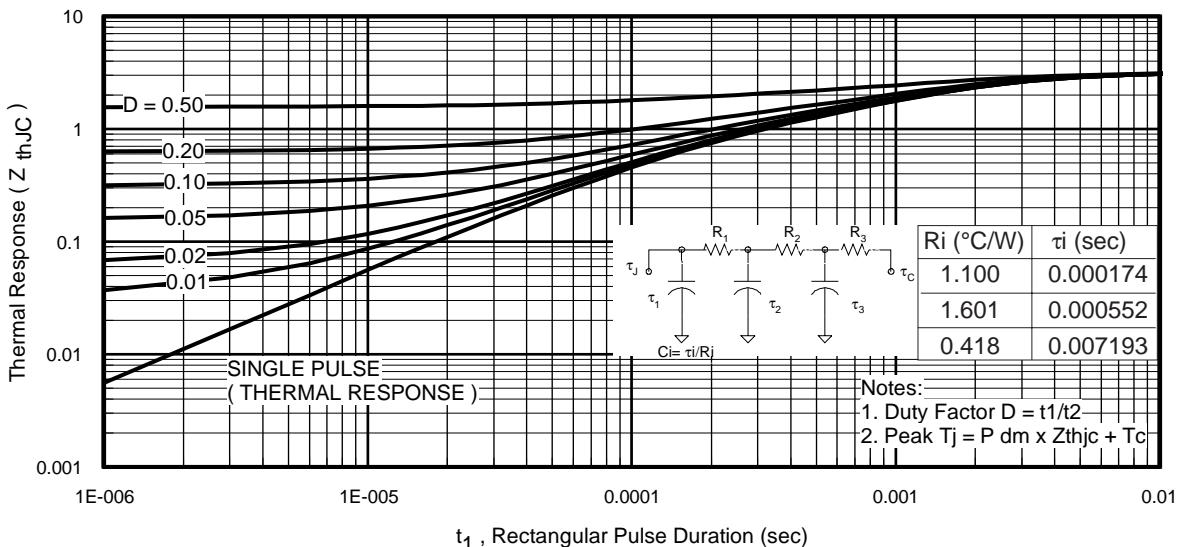
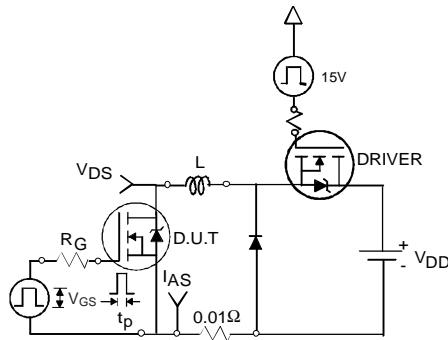

Fig 11. Maximum Effective Transient Thermal Impedance, Junction-to-Case
Fig 12a. Unclamped Inductive Test Circuit
3. Equation below based on circuit and waveforms shown in Figures 12a, 12b.
$Z_{thJC}(D, t_{av})$ = Transient thermal resistance, see figure 11)
- ① Repetitive rating; pulse width limited by max. junction temperature. (See fig. 11).
- ② Limited by $T_{J\max}$, starting $T_J = 25^\circ\text{C}$, $L = 0.18\text{mH}$ $R_G = 25\Omega$, $I_{AS} = 18\text{A}$, $V_{GS} = 10\text{V}$. Part not recommended for use above this value.
- ③ Pulse width $\leq 1.0\text{ms}$; duty cycle $\leq 2\%$.
- ④ $C_{oss\ eff}$ is a fixed capacitance that gives the same charging time as C_{oss} while V_{DS} is rising from 0 to 80% V_{DSS} .
- ⑤ Limited by $T_{J\max}$, see Fig.12a, 12b, 15, 16 for typical repetitive avalanche performance.
- ⑥ This value determined from sample failure population. 100% tested to this value in production.
- ⑦ When mounted on 1" square PCB (FR-4 or G-10 Material). For recommended footprint and soldering techniques refer to application note #AN-994